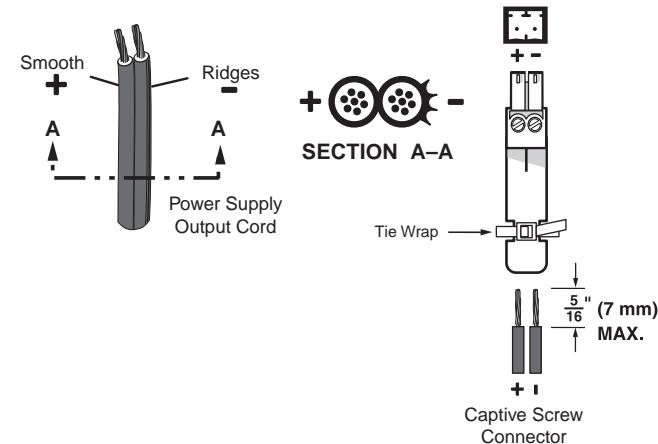

Figure 2-7 — Power connection wiring
- ⑧ **Power connector** — An external 12V power supply is included with the unit. Plug it into this 2-pole 3.5 mm captive screw connector. Wire the connector as shown in figure 2-7. Use the supplied tie-wrap to strap the power cable to the extended tail of the connector.
CAUTION Power supply voltage polarity is critical. Incorrect voltage polarity can damage the power supply and the MMX. Identify the power cord negative lead by the ridges on the side of the cord (figure 2-7).